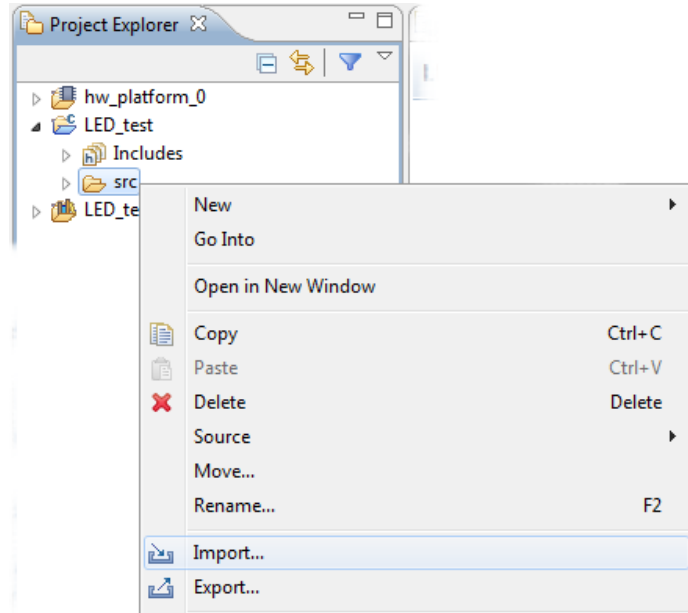

Figure 1.25: Import Source Files to Project
- (d) In the *Project Explorer* panel, expand **LED_test** and highlight the *src* directory. Right-click and select **Import...**, as shown in Figure 1.25.